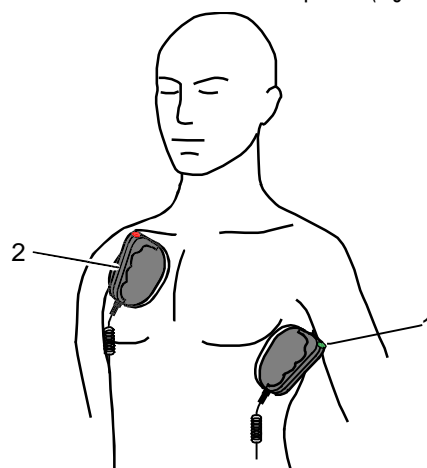

Fig. 5-9 Applying the shock paddles
8. Place the APEX shock paddle (Fig. 5-9, item 1) on the lower left of the thorax beside apex of the heart (5th ICS).
9. Place the STERNUM shock paddle (Fig. 5-9, item 2) to the right of the sternum.